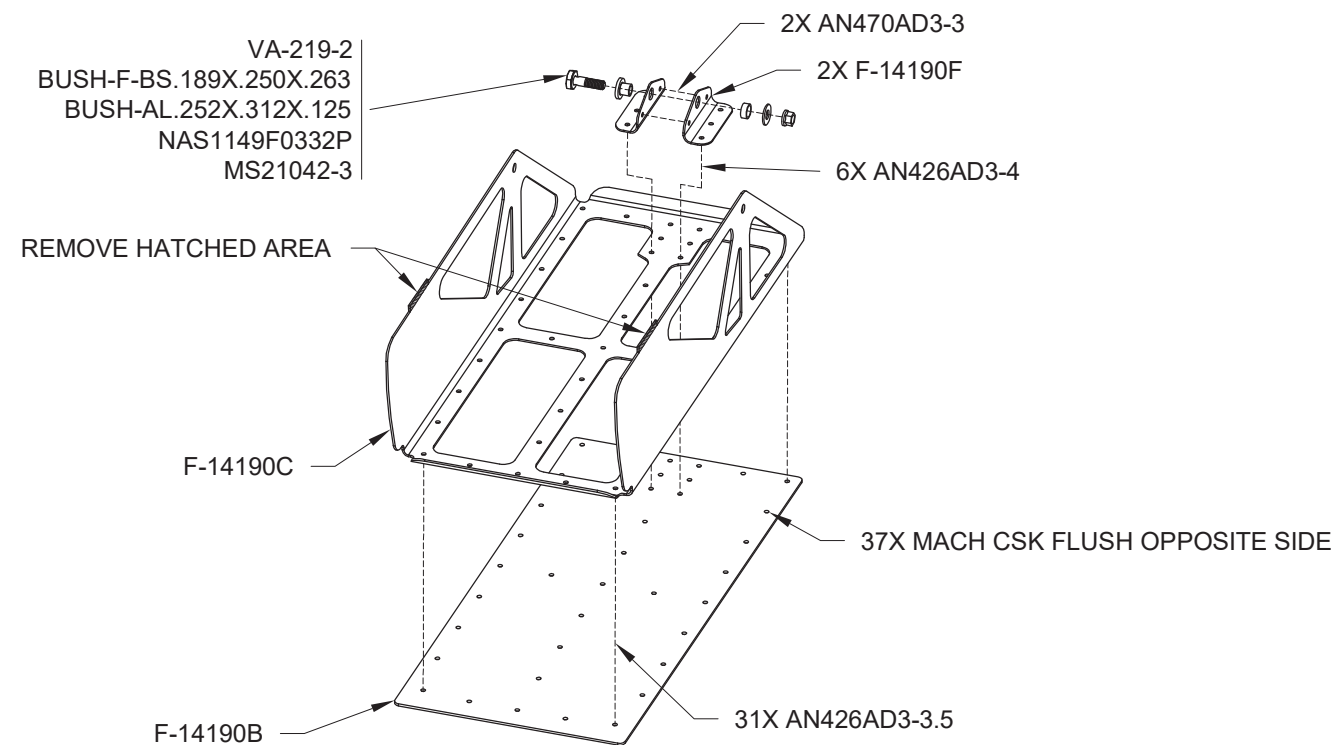

FIGURE 2A: EXIT DOOR ASSEMBLY
Step 2: Trim the hatched areas from the F-14190C Tunnel Exit Door as shown in Figure 2A.
Step 3: Assemble the F-14190B Exit Door Doubler, F-14190C, F-14190F Cable Brackets and hardware as shown in Figure 2A. Do not fully tighten the nut at this time.